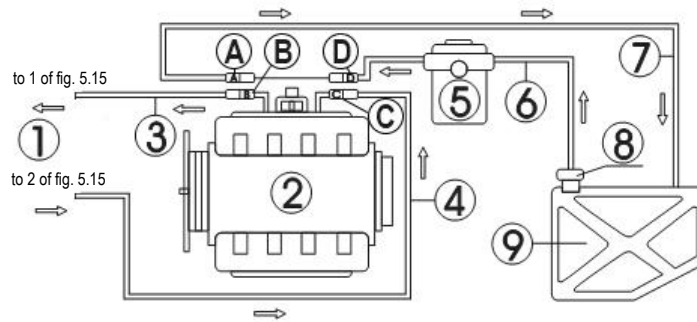

Figure 5.17 Line Connection 1
- Disconnect the fuel supply hoses (C, D) and fuel return hoses (A, B) of the engine fuel system (when disconnecting the fuel line connectors, cover them with towels). Choose proper connectors and connect them to the B end and C end separately, and then connect the other ends to corresponding return hose and outlet hose of the device. See Figure 5.17.